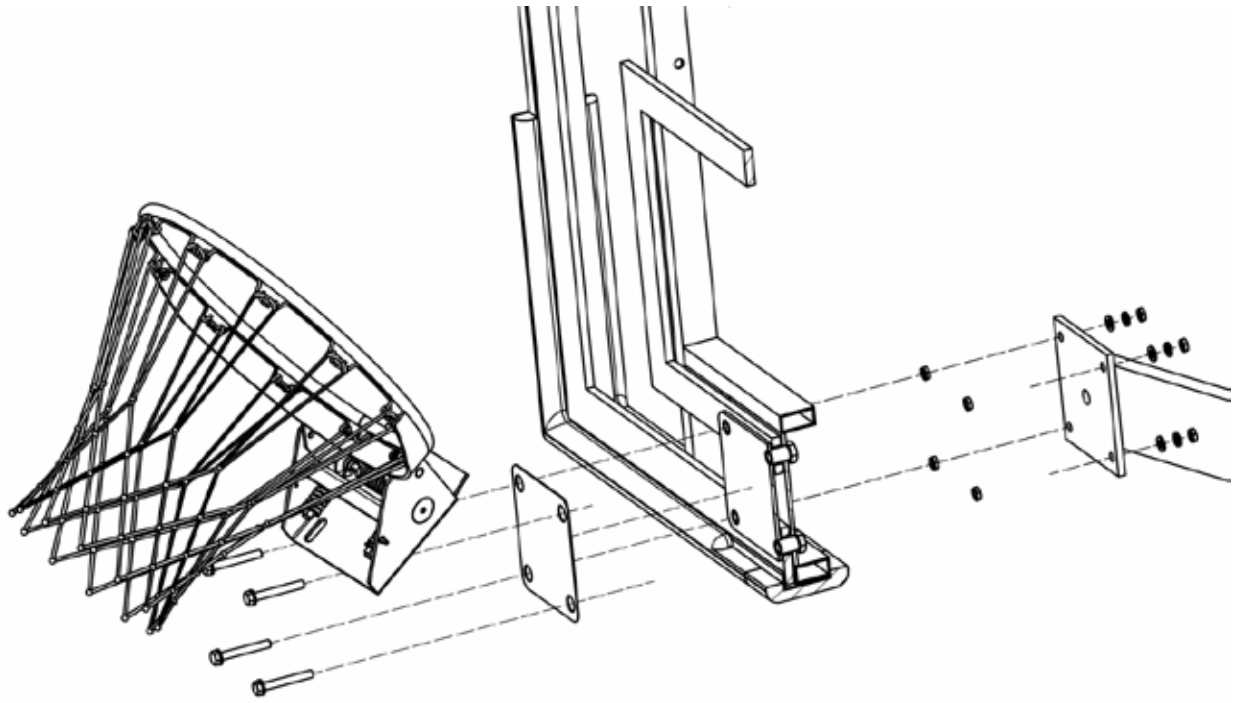

Figure 1 (Rectangular Backboard)
- Using the 4 sets of hex head bolt that fits the 5 inch by 5 inch hole pattern. Order of main part is rim, gasket, backboard and extension arm weldment, tie four items using the hex head bolt with washer thru rim and gasket. Into the backboard nut in the 5 inch by 5 inch hole pattern, use a hex nut to hold the rim and gasket to the backboard. Then lift the backboard on to the extension arm weldment 5 inch by 5 inch hole pattern. Finish this off with washers, lock washers and hex next, repeat till all four set of hardware is securely on ( see figure 1&2).